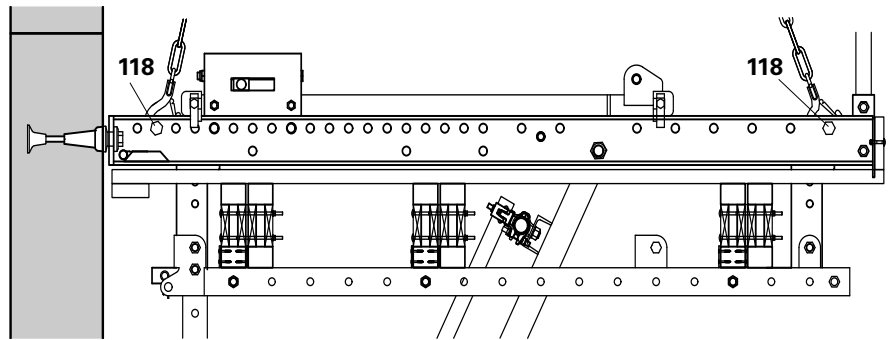

Fig. B7.03
3. Attach crane lifting gear to the Spacers M24-82 with bolt and nut (**118**). (Fig. B7.03)